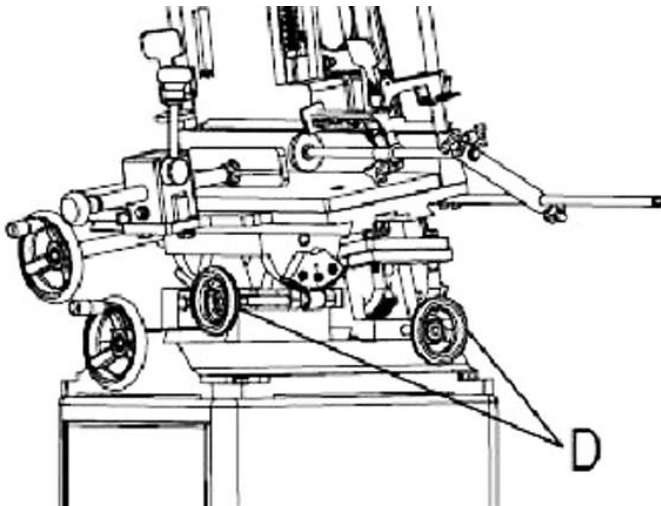
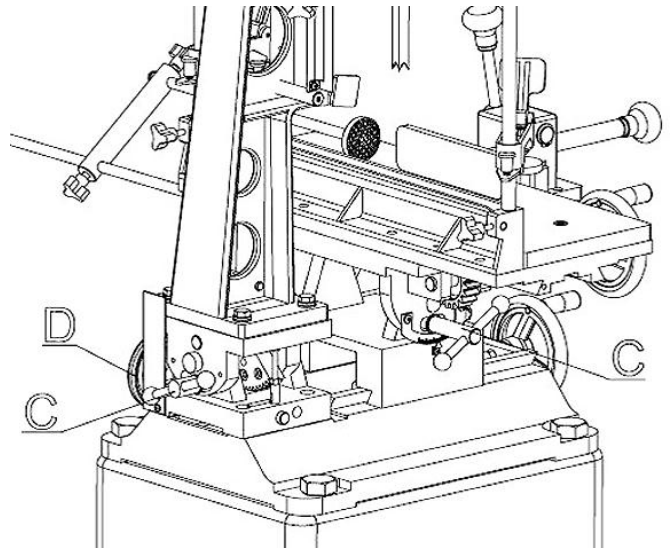

Fig 8
Fig 9
4. Loosen Set Screw Handle (C, Fig. 8/ Fig. 9).
5. Pivot the table to adjust the angle up to  $\pm 22.5^\circ$  using the Handwheel (D) on the tilt bracket as a base.
6. Tighten the Set Screw Handle (C).